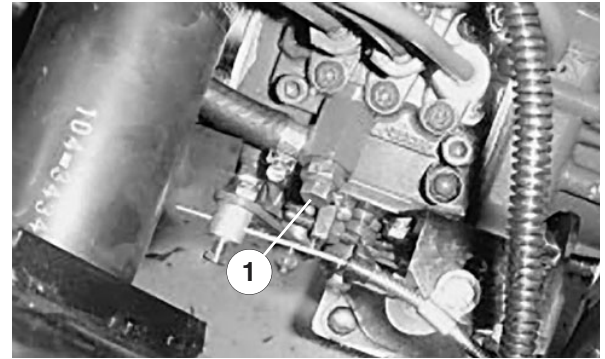

Figure 12
3. Open the air bleed screw on the fuel injection pump (Fig. 12).